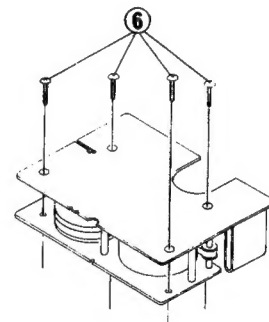

Fig. 6
1. Pull out reel stoppers (A) and (A').
5. Removing the DD motor (Fig. 6)